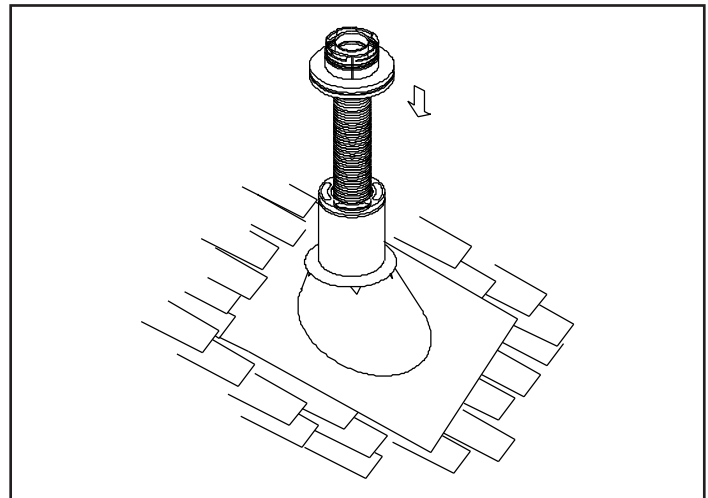
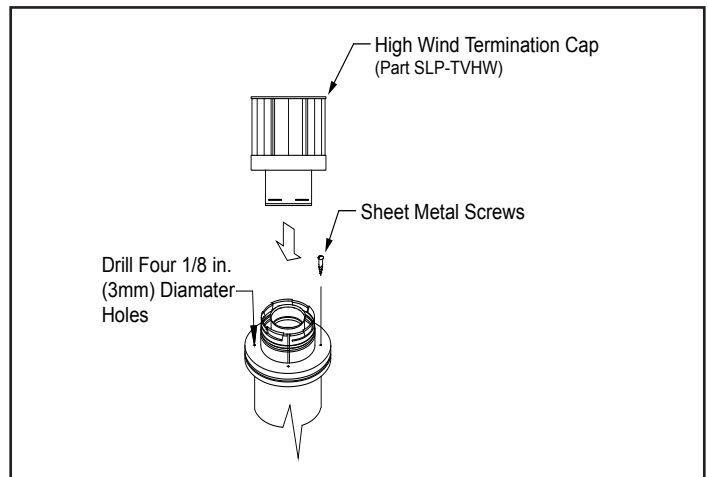

Figure 4.15
Figure 4.16
4. Pass the flex pipe down through the center of the chimney system, and center the top adaptor on the top of the chimney pipe. Drill four 1/8 in. (3mm) diameter holes through the top adaptor, and into the chimney top, preferably from the side of the top adaptor. Ensure that you are drilling into the metal on the chimney. Twist lock the high wind termination cap onto the top adaptor. See Figure 4.15 and Figure 4.16.